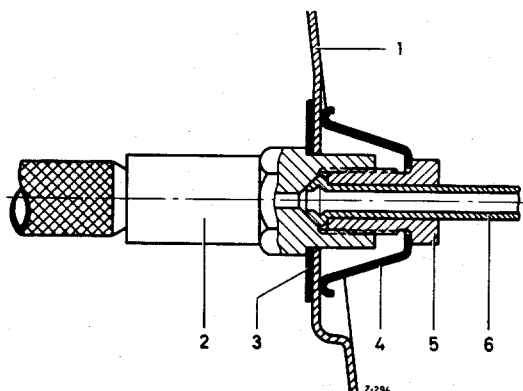

Fig. 01 — 2/15
45. Screw in the brake hoses at left and right into the brake line at the brake anchor plate (see Fig. 01 — 2/8).
Then tighten up the sleeve nut (5) at the brake line (6) at left and right at the wheel arch assembly (see Fig. 01 — 2/15).